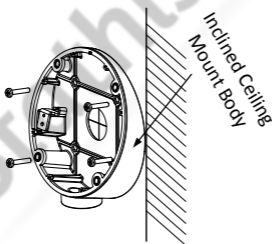

Figure 2-8 Fix the Inclined Base Body
5. Install the inclined ceiling mount's body on the ceiling/wall with four PA4 × 25 screws, as shown in Figure 2-8.